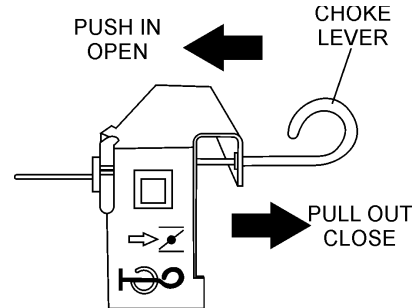

Figure 19. Choke Lever
2. Place the choke lever (Figure 19) in the **CLOSED** position if starting a cold engine.
3. Place the choke lever (Figure 19) in the **OPEN** position if starting a warm engine or the temperature is warm.
- If the engine has started, slowly return the choke lever (Figure 19) to the **OPEN** position. If the engine has not started repeat steps 1 through 6.